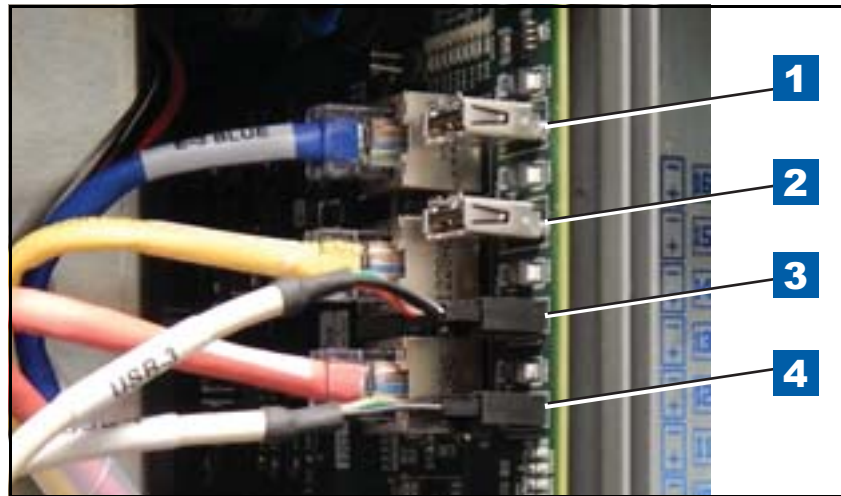

Figure 19. Connect USB Module Cables
6. Connect the two USB module USB cables (labeled 3 and 4) to the CPU board USB 3 and 4 connectors (see Figure 19).